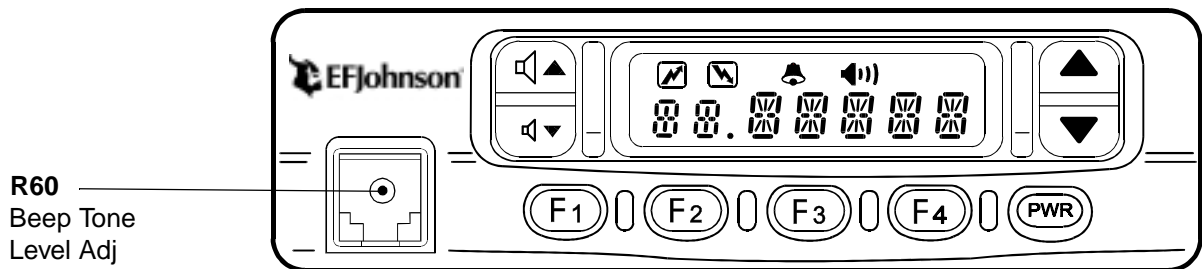

Figure 6-5 Beep Tone Level Adjustment
1. Unplug any cable that may be plugged into the microphone jack and locate R60 inside this jack. (see Figure 6-5).